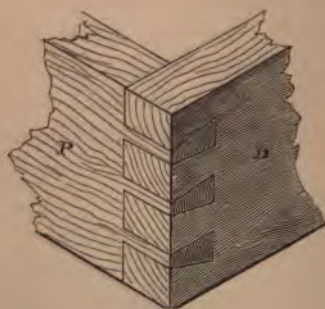
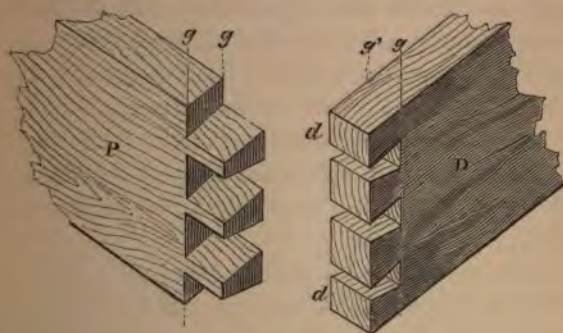
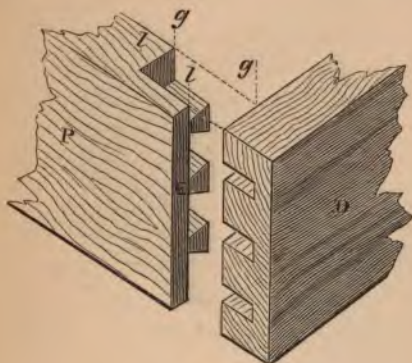

Fig. 88.
Fig. 89.
Fig. 91.
The simplest form of dovetail attachment is shown complete in No. 88. In fig. 89 the two pieces which respectively represent the side and end of a box are detached, in order to exhibit the formation of the joint.
marking-gauge may be set to one of the lines, and the four pieces can then be gauged at each end and on both sides, or the square and scribe may be employed. These lines, which also determine the bottoms of the pins and dovetails, are seen at *g, g*, fig. 89.
twice as large as the others. In fig. 89 the dovetails, *d, d*, are external, consequently all the pins are of uniform size.
named. Fig. 91 represents the formation of this attachment. The end grain of the pins and dovetails is effectually enclosed, but a narrow strip of the cross-grain end of the piece, P, is observable at E: this, however, is disguised by rounding the corner after the work is put together. The gauge-lines *g, g*, which denote how
the pins and dovetails must extend inwards, is marked as in fig. 89. It will be seen, by inspecting fig. 91, that neither the pins nor the dovetails extend quite through the wood in which they are respectively formed; hence the concealment of their end grain; and it is immaterial in which piece the pins or the dovetails are made. The depth of the dovetails is generally about one-eighth inch less than the thickness of
* Sometimes the lap is not formed on the piece containing the pins as in fig. 91, and the extremities of the pins are then level or flush with the end E. In this case the lap must be worked in the piece in which the dovetails are cut.
represented by P, fig. 91, but their extremities are level with the end E. The dovetails are cut quite through the side pieces, which are only about half the thickness of the front. If the front is to be veneered, the dovetails are made as in figs. 88 and 89.
four pieces must be cut to the external dimensions of the work, and then rebated at each end. This rebate should be about an eighth of an inch square, and similar to the lap E, in the piece P, fig. 91, in which E is about an eighth of an inch thick, and projects the same amount beyond the